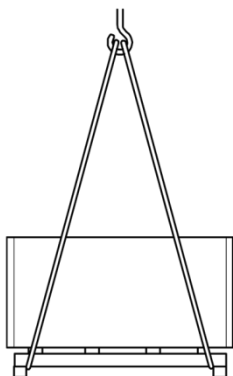

Abb. 20: lifting gear
- 1 Sling on ropes, belts accordingly (Fig. 20) to the pallet and secure pallet against slipping.